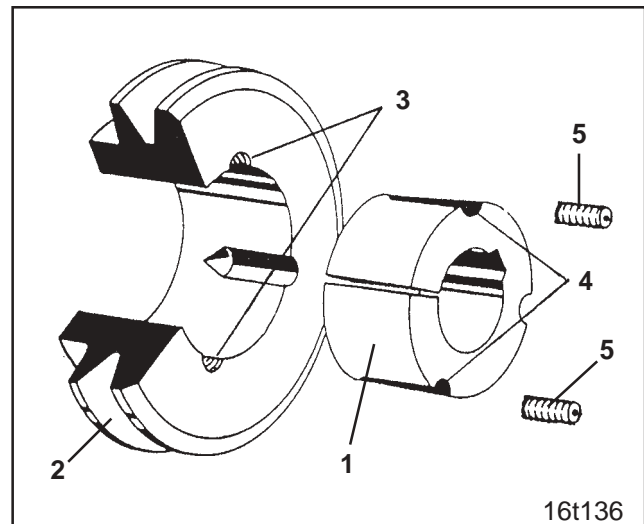

Fig. 6.22
Retighten bolts (Fig. 6.22/5) of the taper roll pins after the first operating hour!
- Clean all bright surfaces of the taper-tensioning (Fig. 6.22/1) as well as the tapered bore of the V-belt pulley (Fig. 6.22/2)
- Insert the taper tensioning bushing into the tapered bore of the V-belt pulley in such a way that all connecting bores coincide (half threaded bores [Fig. 6.22/3] have to be opposite half smooth bores (Fig. 6.22/4).)
- Bolt tensioning bolts (Fig. 6.22/5) into the threaded holes being opposite to each other and tighten with spanner for hex nuts DIN 911. To improve the seating of the inner bushing knock them when tightening. .
The torque of the tensioning bolt (Fig. 6.22/5) is for
Retighten bolts (Fig. 6.22/5) of the taper tensioning bushings after the first operating hour.
- Slacken tensioning bolt (Fig. 6.22/5) with Allen key